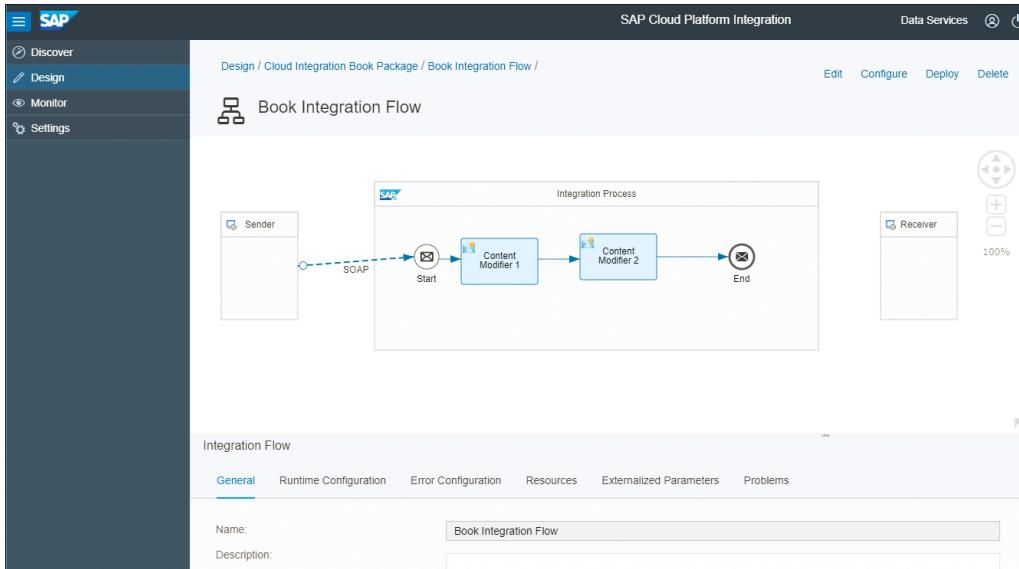

Figure 4.36 Configuring an Integration Flow
3. Click on the **Configure** link in the top-right corner (see Figure 4.36).